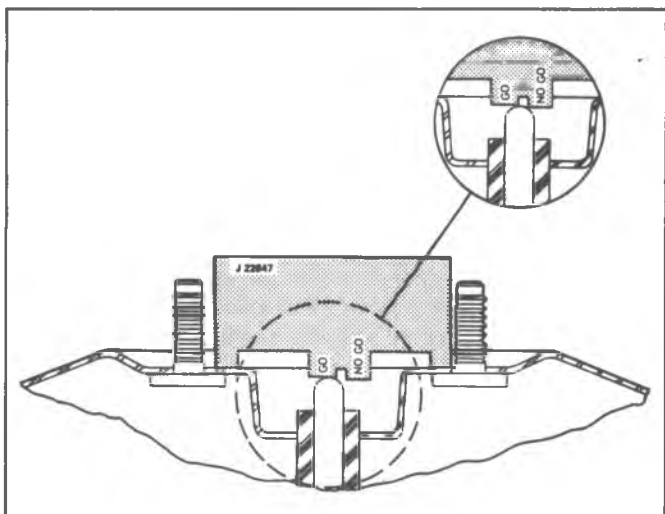

Fig. 5-5D--Gaging Piston Rod
- Place Gage J-22647 over the piston rod in a position which will allow the gage to be slipped to the left or right without contacting the studs (fig. 5-5D).